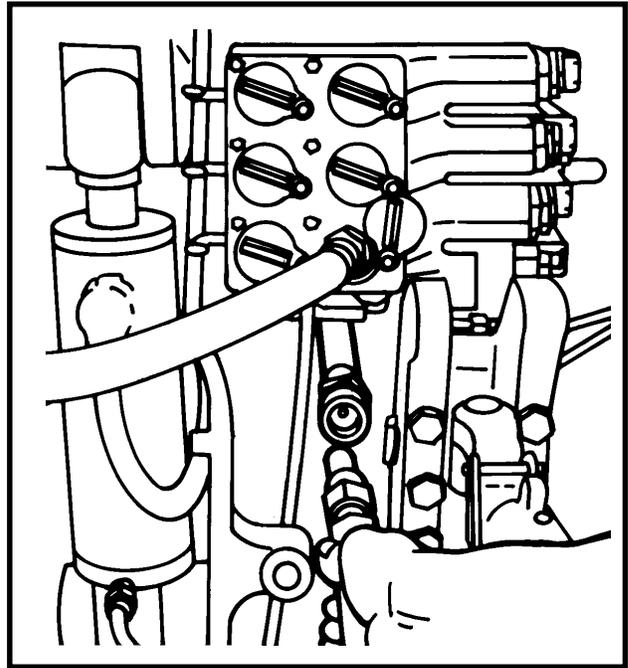

Figure 3 Low Pressure Return Circuit
2) **DO NOT** install a restrictor orifice in the ACE motor. A flow limiter may be installed (not required) in the inlet port of the motor to prevent damage from possible motor overspeeding. 3) Connect the pump to the lowest right hand remote hydraulic port. ACE strongly recommends using the tractor auxiliary low pressure return circuit (John Deere Kit #AR114664) to return hydraulic oil to the tractor (figure 3 on back side).